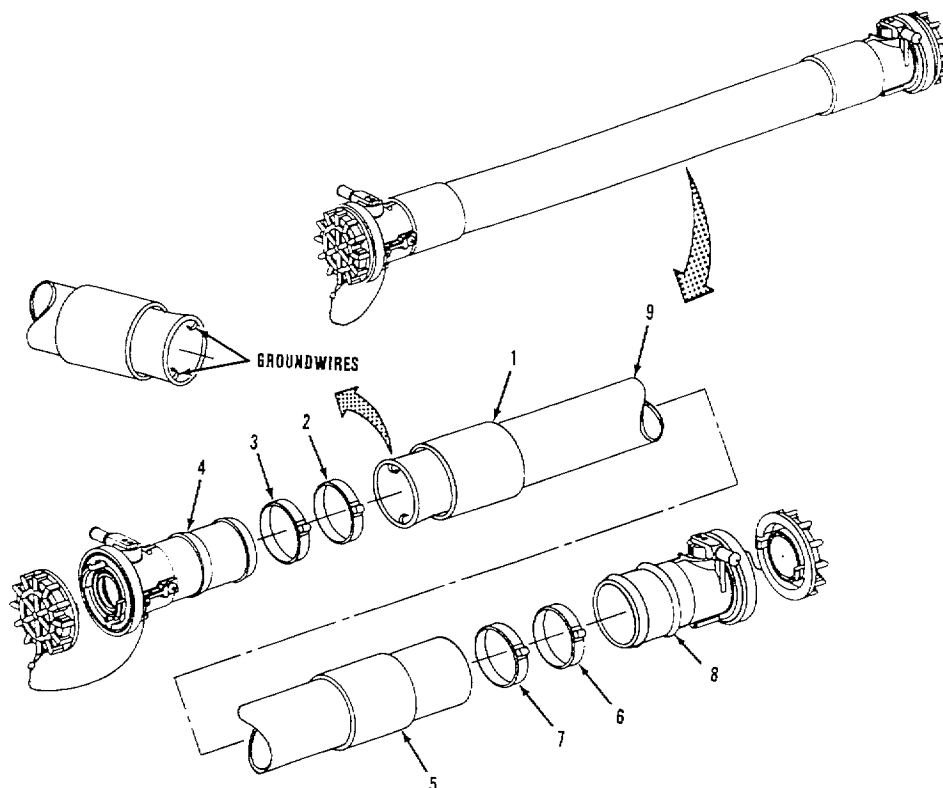
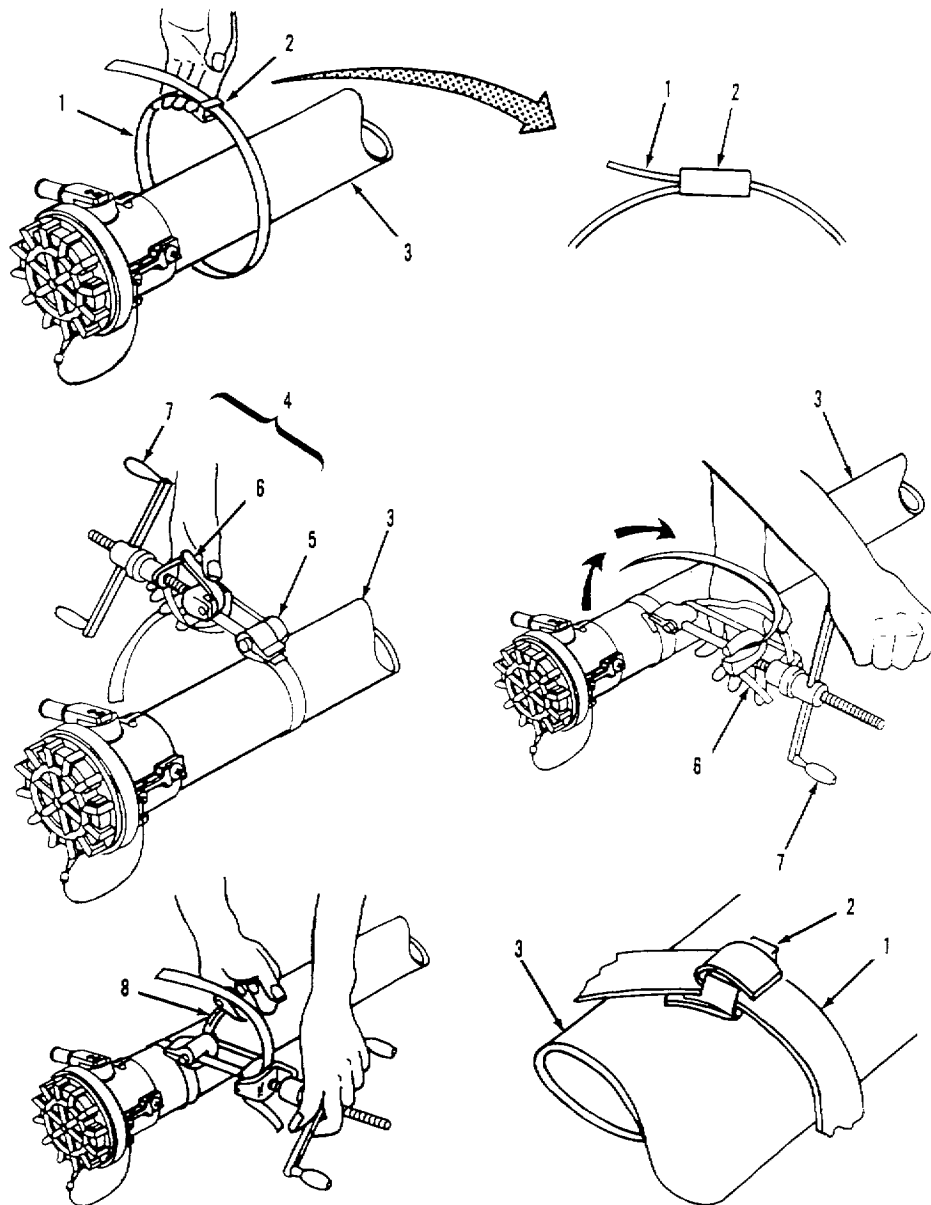
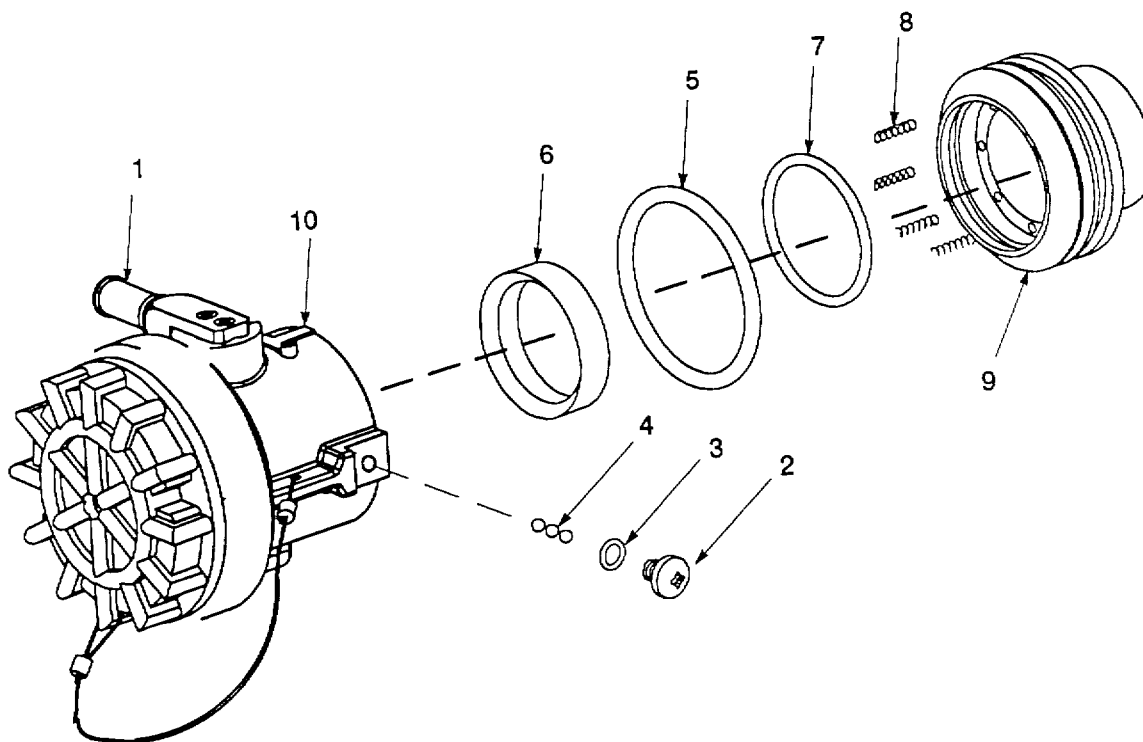

Figure 4-7. 2-Inch Fuel Hose Repair.
Figure 4-8. 2-inch Fuel Hose Clamp Installation.
Figure 4-9. Valved Dry Break Coupling Removal.
a. Disassembly. Refer to figure 4-7.
- (1) Slide back rubber sleeve (1) from top of clamps (2 and 3).
- (2) Cut clamps (2 and 3) from hose (9).
- (3) Remove valved dry break coupling assembly (4) from end of hose (9).
- (4) Slide back rubber sleeve (5) from top of clamps (6 and 7).
- (5) Cut clamps (6 and 7) from hose (9).
- (6) Remove valved dry break coupling assembly (8) from end of hose (9).
c. Inspection. Refer to figure 4-7.
- (1) Inspect valved dry break coupling assemblies (4 and 8) for cracks, corrosion and damaged coupling ends.
- (2) Inspect hose (9) for cuts, tears, punctures, bulges and delamination.
- (3) Inspect ends of hose (9) for damaged or missing ground wires. Perform continuity test of ground wires from one end of hose to the other. Continuity must exist.
- (4) Inspect ground wires at both ends of hose (9). At least 1/2 inch of wire must be exposed. If required, trim back hose material to obtain correct wire length.
- (1) Replace damaged components and all mandatory replacement parts.
- (2) Repair valved dry break coupling assemblies (para 4-18).
e. Assembly. Refer to figure 4-7.
- (1) Slide sleeve (5) onto hose (9) and position it about 12 inches back from end of hose.
- (2) Fold ends of grounding wires into hose (9).
- (3) Push valved dry break coupling assembly (8) into end of hose (9).
- (4) Slide sleeve (1) onto hose (9) and position it about 12 inches back from end of hose.
- (5) Push valved dry break assembly (4) into end of hose (9).
- (6) Perform continuity test between valved dry break couplings (4 and 8) to ensure ground wires are firmly seated against couplings. Continuity must exist.
- (7) Wrap end of clamp (1, figure 4-8) around hose (3) and through seal (2). Position clamp about 1-inch from end of hose.
- (8) Wrap another loop of clamp (1) around hose (3) and through seal (2).
- (9) Position tag end of clamp (1) in slots of clamping tool (4). Tool nose (5) should fit snug against seal (2).
- (10) Apply pressure to gripper lever (6) and turn handle (7) until clamp (1) is snug. Tool will lock in place when correct tension is applied. Reposition tool as required.
- (11) Turn handle (7) to the right (clockwise) to tighten strapping (1). Continue turning handle until strapping stops moving through seal (2).
- (12) While reversing handle (7) 3/4 turn, roll tool (4) to opposite side of seal (2). (This will bend strapping and prevent it from slipping through seal when tool is removed.)
- (13) Pull cutting handle (8) on tool to cut strapping (1).
- (14) Remove tool (4) while holding strapping stub down on seal (2) with thumb.
- (15) Clinch end of clamp (1) by hammering down tag end clamp over seal (2).